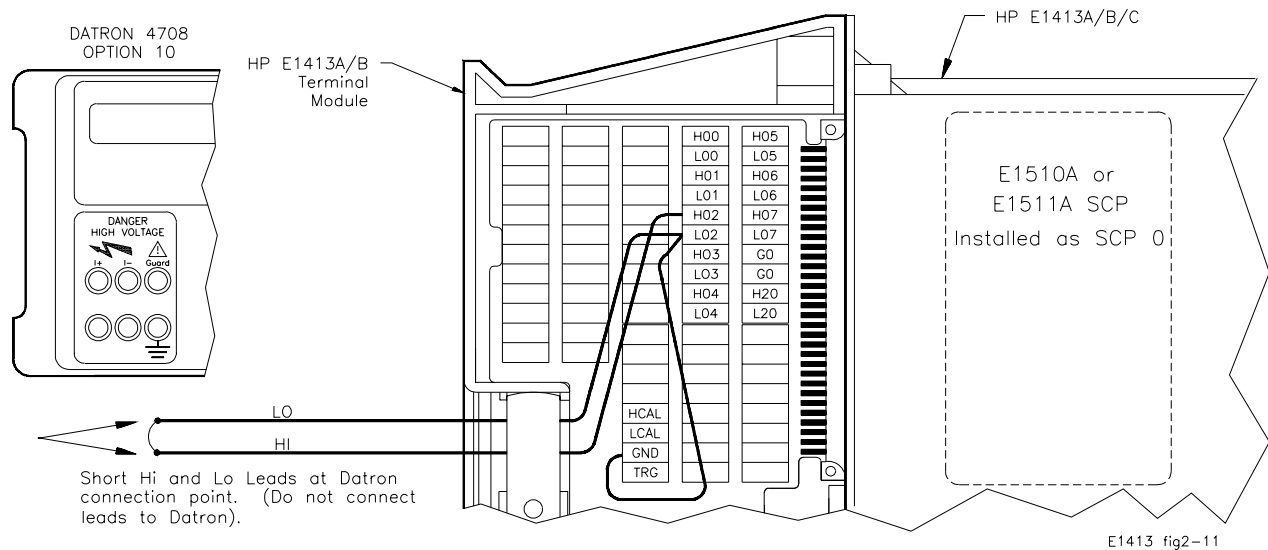

Figure 2-11. Channel Tare/Calibration Connections
- [a] Connect wiring to Terminal Module (see Figure 2-11).